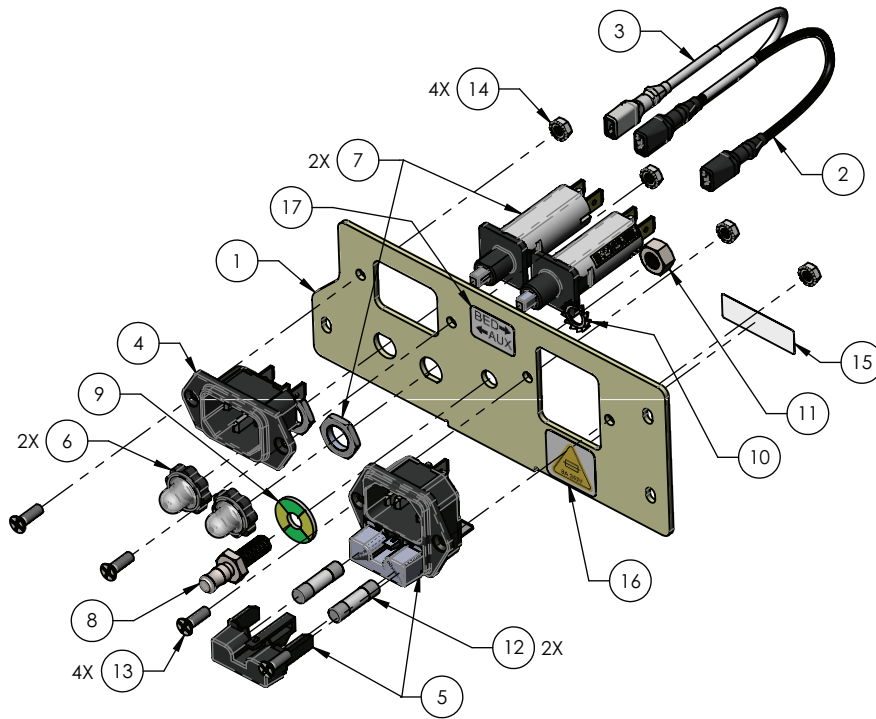

Figure 7 – Power inlet replacement
5. Using a #2 Phillips screwdriver, remove and save the three screws (13) that secure the power inlet assembly (5) to the litter weldment and pull the assembly outward (Figure 7).
6. Grasp each of the three wires of the power inlet (5) while depressing the locking tab and pull straight out from the power inlet (Figure 7).
7. Using a #2 Phillips screwdriver and 5/16" nut driver, remove and save the two screws (13) that secure the power inlet (5) to the mounting plate (1). Remove and discard the power inlet (Figure 7).